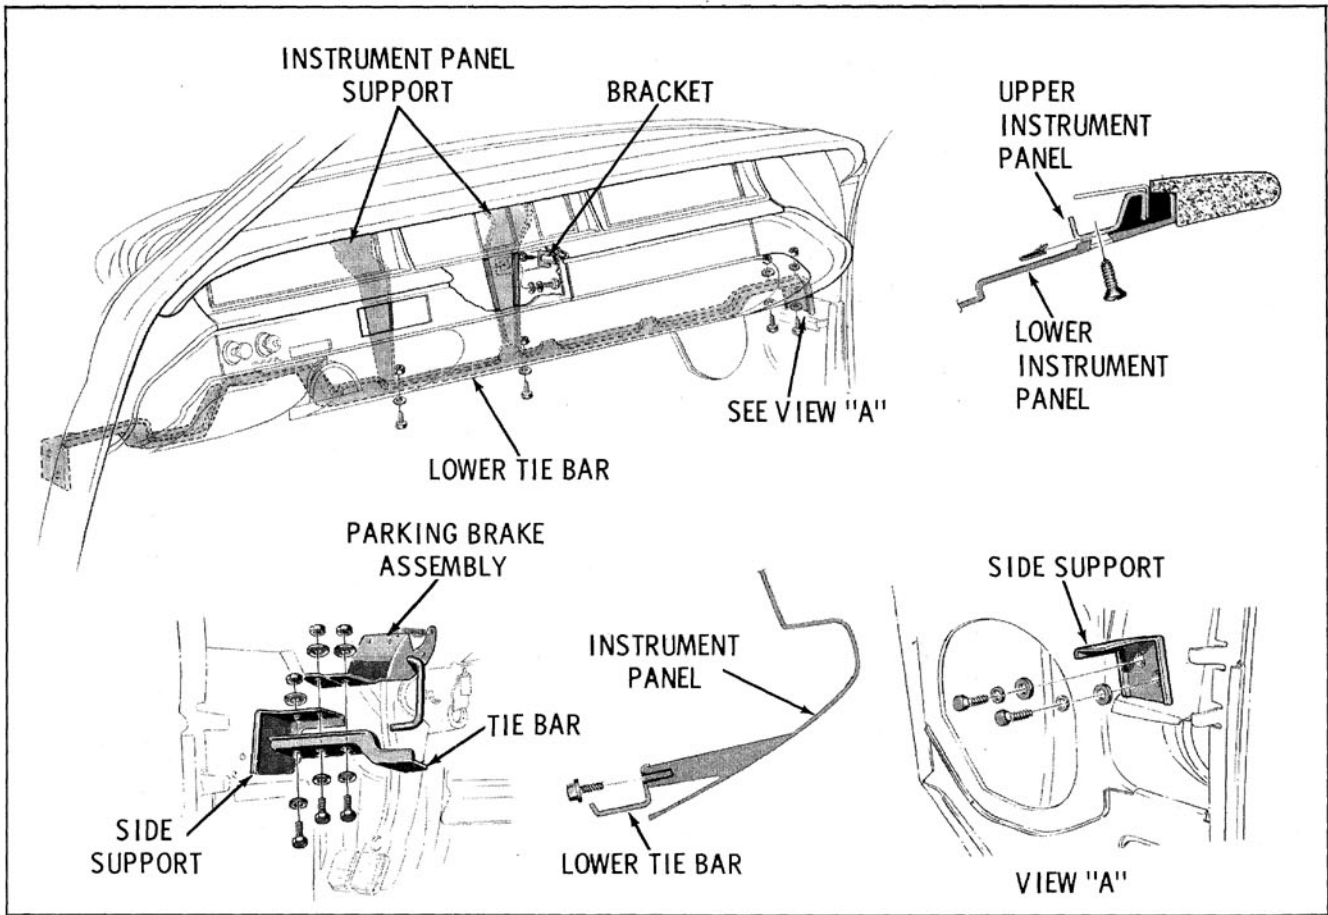

Fig. 12-1 Instrument Panel Components
4. Remove instrument panel attaching screws. (Fig. 12-1)